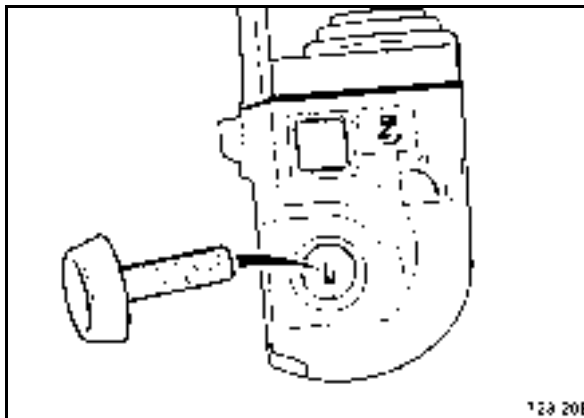

Fig. 55
- Pull off the ignition key (Fig. 55) and store it in a safe place.